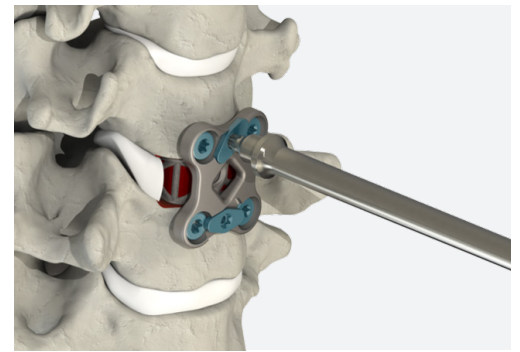

Figure 14
- ▲ After placement of the screws, rotate the Anti-Backout Plates with the Driver (Fig. 14).